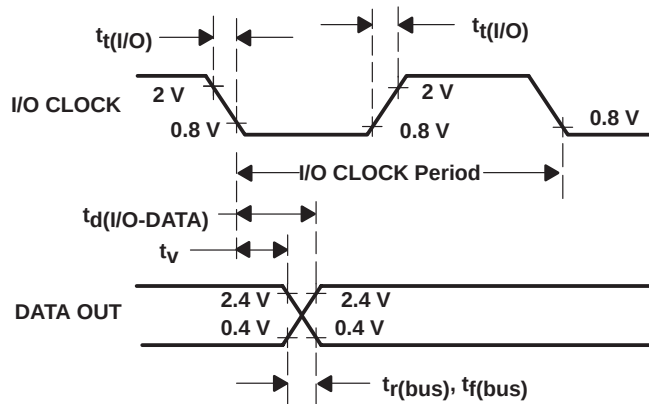

Figure 7. I/O CLOCK and DATA OUT Voltage Waveforms
10. I/O CLOCK period = $1/(\text{I/O CLOCK frequency})$ (see Figure 7).